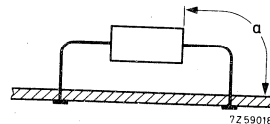

Fig. 3 Mounted on a printed-circuit board.
2. Thermal resistance from junction to ambient when mounted on a printed-circuit board at any lead length  $a$ ; Fig. 3